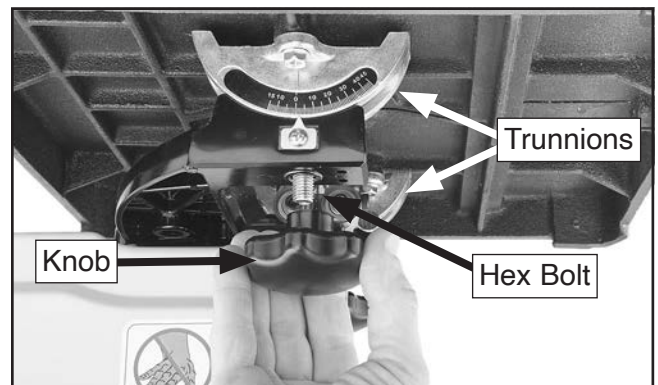

Figure 24. Securing trunnion to support bracket.
5. Line up the blade with the table slot and position the table until the blade is in the center of the table, then turn the table 90° clockwise and rest it on the trunnion support bracket so that the hex bolts protrude from the bottom of each trunnion (see **Figure 24**).
6. Thread a knob onto each hex bolt to secure the table, as shown in **Figure 24**.